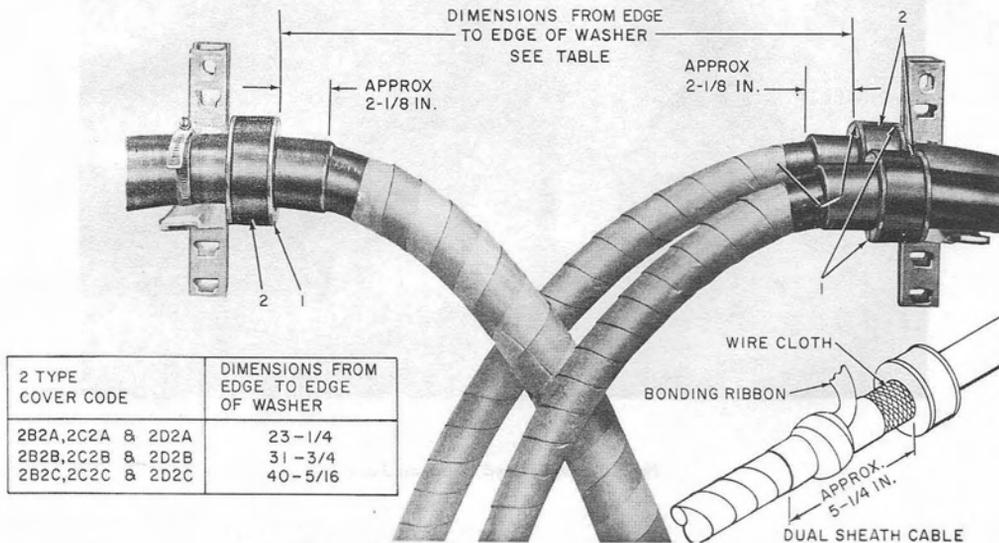

Fig. 20—Installation of B Sealing Tape Collars
- 3.04 Install B sealing tape collars on single and dual jacket cables as outlined in Fig. 20.
1. Install B sealing tape collars on cable sheaths as outlined in Fig. 20.